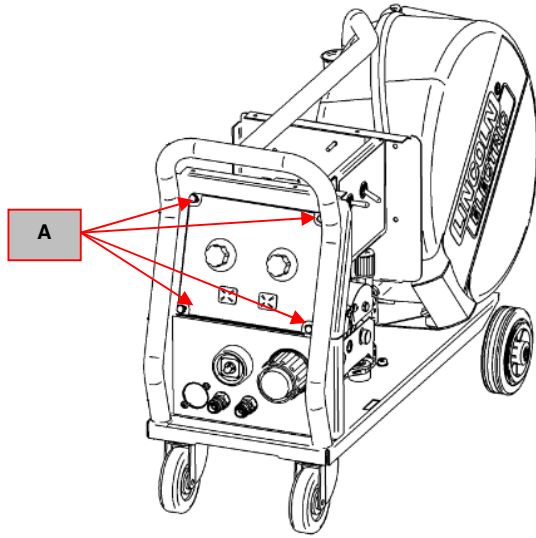

Figure 1b – User Interface removal
2. Using the 7mm nut drive remove the four screws (**A**) that are fixing the User Interface panel to the Power Feed front panel. See **Figure 1b**.